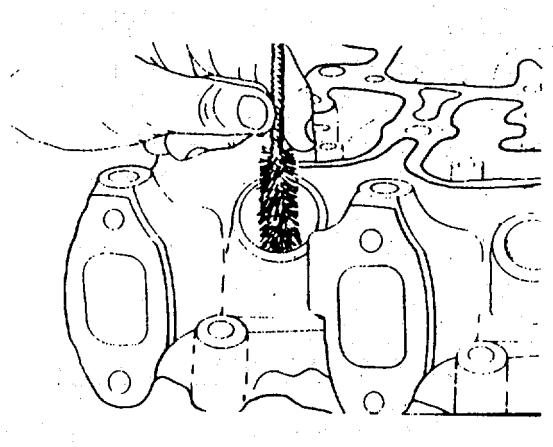

FIGURE 4-7. Cleaning Injector Nozzle Seat.
- a. Clean the carbon from injector nozzle seat with nylon or brass brush as shown in FIGURE 4-7.
f. Inspect valve springs (3, FIGURE 4-7).
(1) Measure each valve spring.